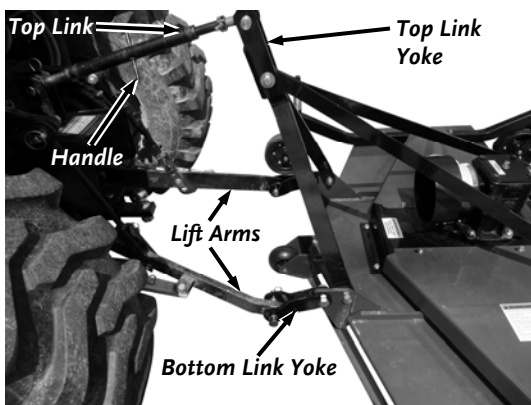

Figure 21:
1. Position the Lift Arms of the Tractor to the Bottom Link Yokes of the Finish Mower (**Figure 21**).